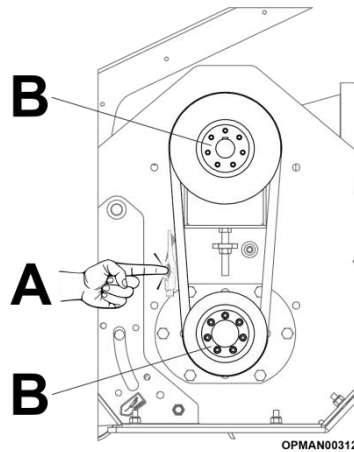

Figure 5.46 – Secondary Drive Belt Tension Overview
Tension is correct when a force is exerted on the belts at their mid-point between the upper and lower pulleys which deviates the belts; see Figure 5.46 (A).
After the first 2 hours of work re-check the belt tension and taper locks; see Figure 5.46 (B).